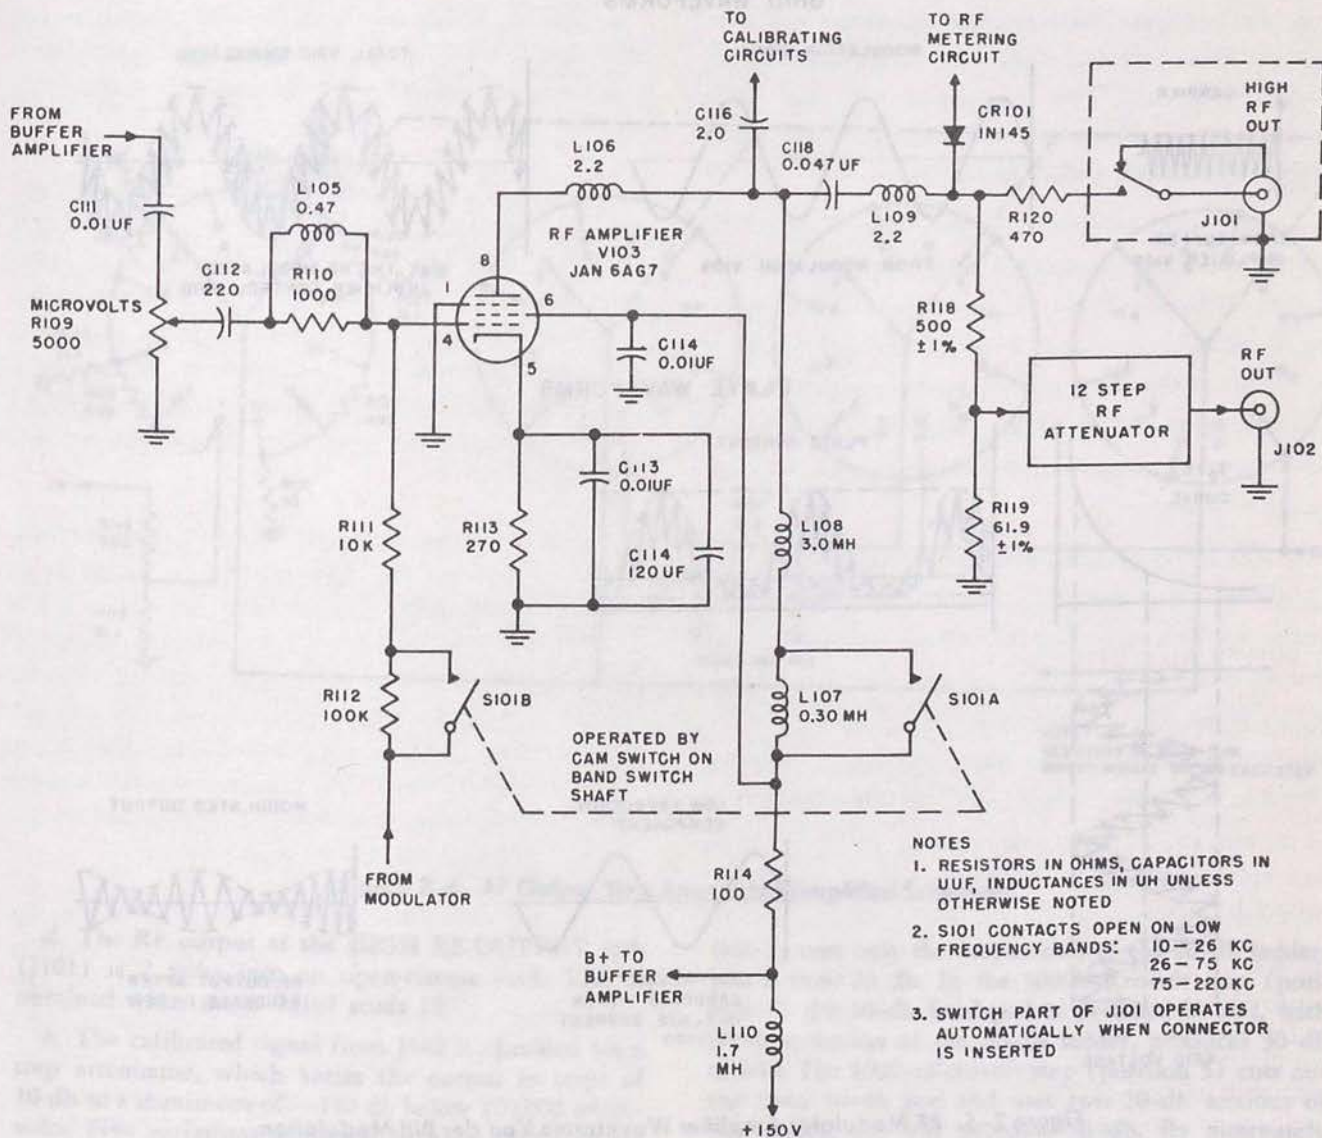
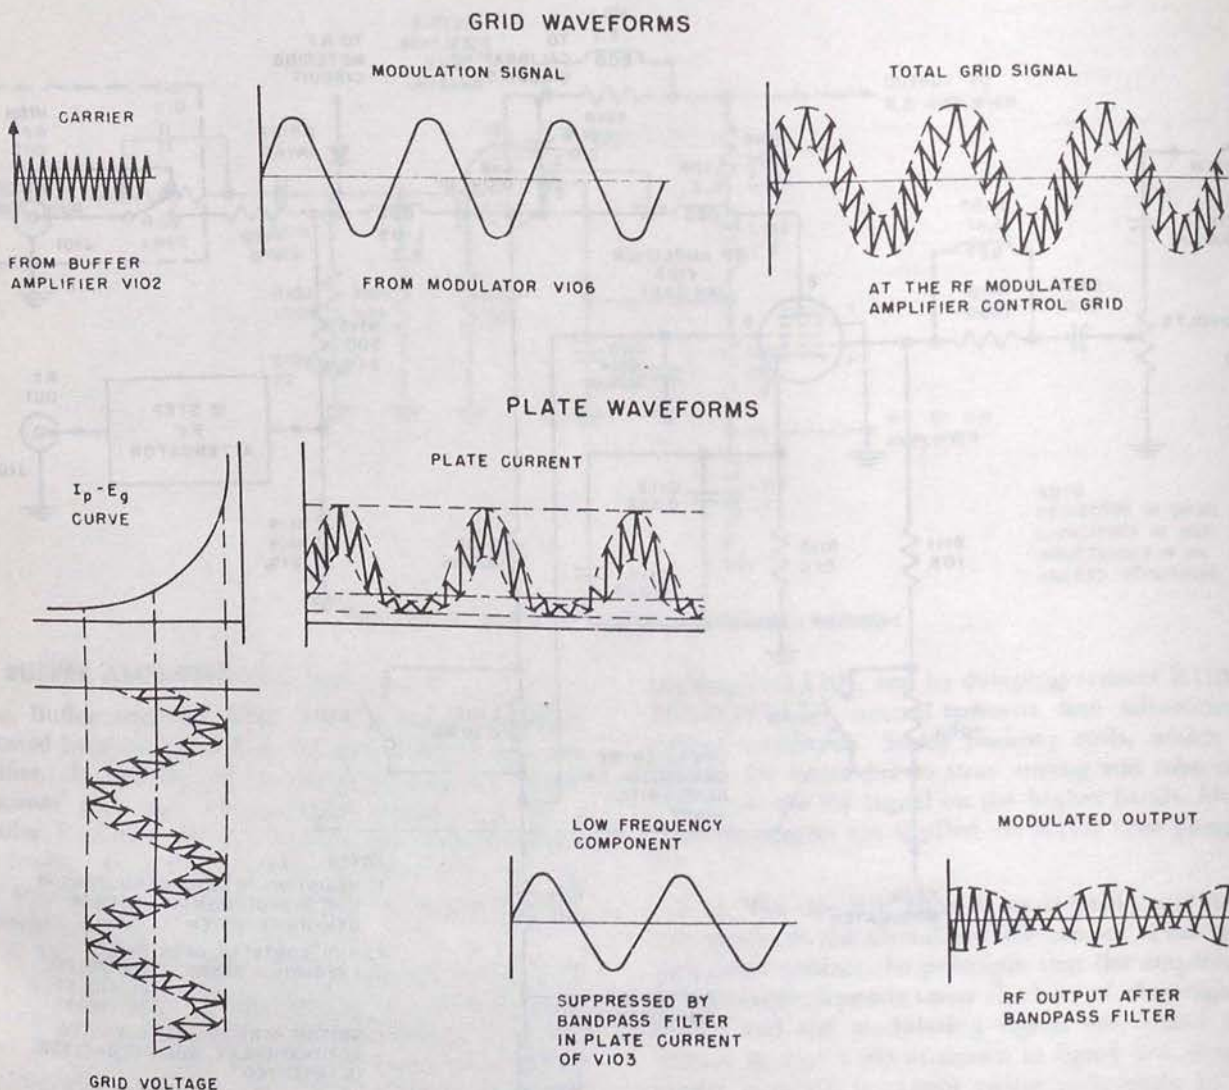

Figure 2-4. RF Modulated Amplifier Simplified Schematic
Figure 2-5. RF Modulator Amplifier Waveforms Van der Bij Modulation
(See figures 2-4 and 2-5.)
c. A Van der Bijl class A modulated amplifier circuit produces the modulated RF carrier. This type of modulator utilizes the principle that the amplification of a pentode depends upon the bias of the stage. The carrier and the modulating signal are mixed at the control grid of V103 as shown in figure 2-4. Since the carrier is small, it cannot swing sufficiently to affect the stage bias. The large modulating signal, however, exerts a great deal of control over the bias. Therefore amplification of the carrier is varied at an audio rate producing modulation. The plate current contains both the modulating frequency (see figure 2-5) and the modulated carrier. Only the latter component is desired. Hence, the modulating frequency is removed by a bandpass filter in the plate circuit of the amplifier. This filter is described in paragraphs e and f of this section. The correct no-signal bias for V103 is provided by cathode resistor R113. Capacitors C113 and C114 bypass RF and audio currents around R113 to ground.
i. When the attenuator is at the position for 100,000 microvolts output, the jack is connected to the top end of R119. See figure 2-4. The combination of R118 and R119 attenuates the signal from 2 volts to 0.2 volt. When a 50-ohm termination is used across J102 (thus properly terminating the generator), 100,000 microvolts appears across the termination. This is the voltage indicated on the meter M101. It cannot be too heavily stressed that the output voltage from J102 is only indicated correctly by the meter M101 when the generator is terminated by its correct impedance, 50 ohms. See paragraph 9, section 4 "Operation" for termination methods.